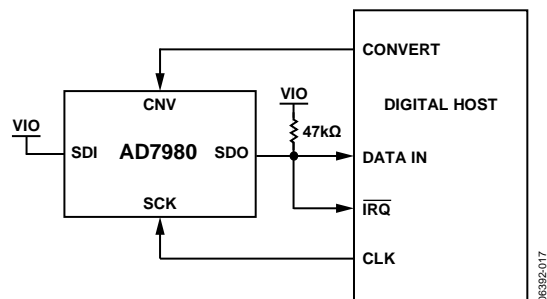
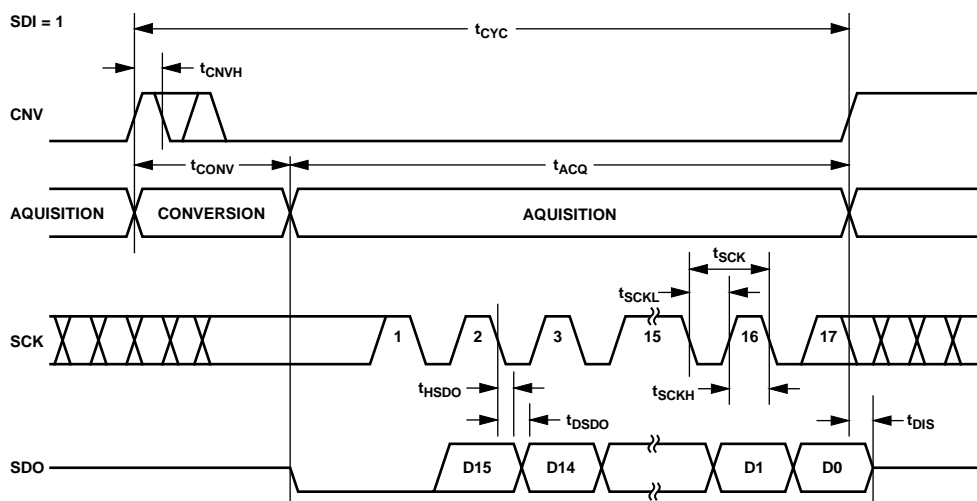

Figure 33. 3-Wire  $\overline{\text{CS}}$  Mode with Busy Indicator Connection Diagram (SDI High)
Figure 34. 3-Wire  $\overline{\text{CS}}$  Mode with Busy Indicator Serial Interface Timing (SDI High)
- In the  $\overline{\text{CS}}$  mode if CNV or SDI is low when the ADC conversion ends (see Figure 34 and Figure 38).
The connection diagram is shown in Figure 33, and the corresponding timing is given in Figure 34.